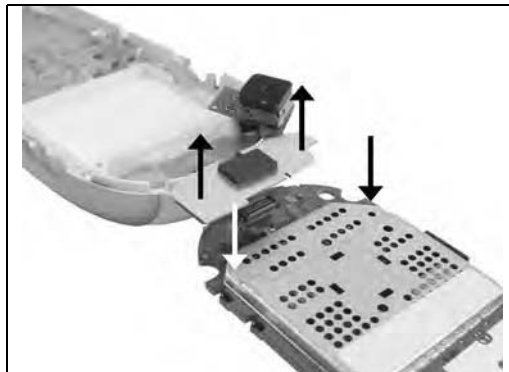

Figure 7-14.
5. Turn main board/front housing over. Gently press down on the outer edges of the shield until flex connector releases. See Figure 7-14.